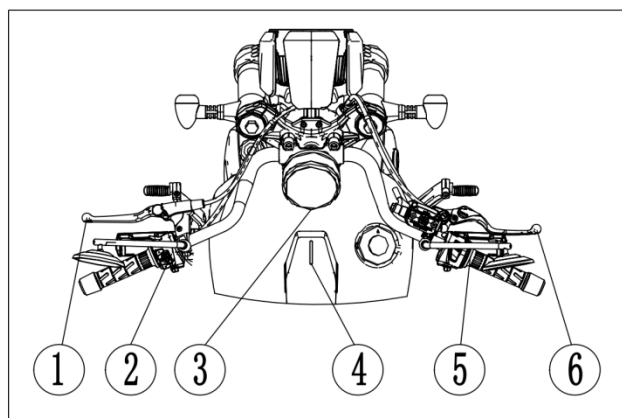
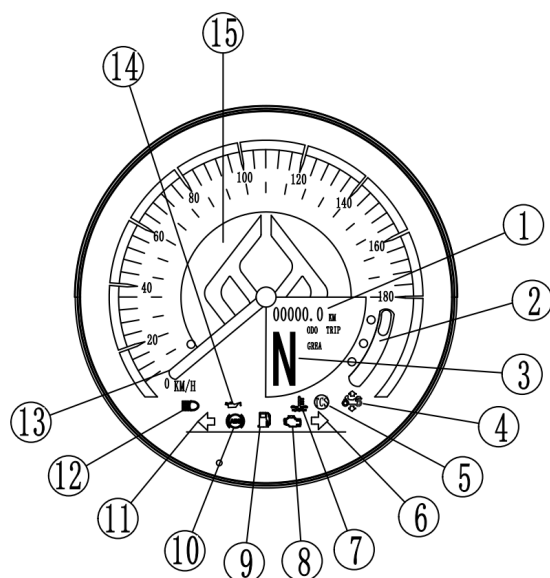

Figure 4
Figure 5
3. Front motorcycle body (Figure 4)
- ① Clutch handle
② Left switch combination
③ Instrument
④ Oil display small instrument
⑤ Right switch combination
⑥ Front brake handle
4.2. Instrument (TFT) , oil display small instrument (Figure 5, Figure 6)